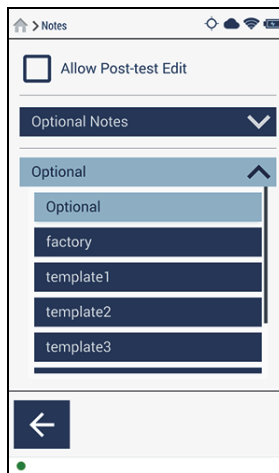

Figure 2-28 List of Note options
3. Tap the **Optional** down arrow to display a list of available note options (see Figure 2-28 on page 46). Note templates can be set up and customized in the Vanta PC Software (see the *Vanta PC Software User Interface Guide*).